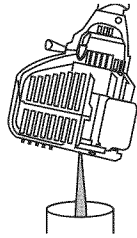

Fig. 21
2. Pour the oil out of the oil fill hole and into a container by tipping the unit to a vertical position (Fig. 21). Allow ample time for complete drainage.